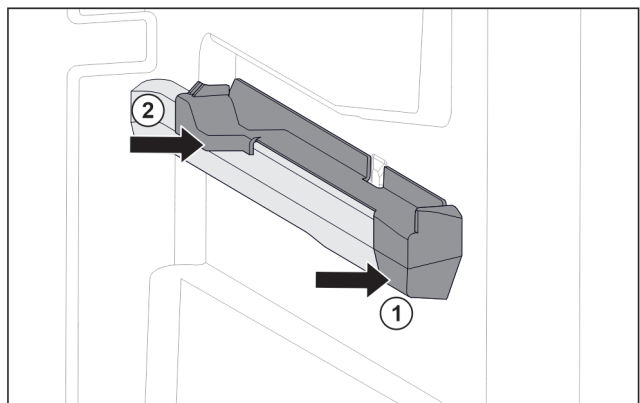

Fig. 108 Attachment on the right moulded rib
- ▶ Position attachment on moulded rib at the front. *Fig. 108 (1)*
- ▶ Press on attachment at the back. *Fig. 108 (2)*